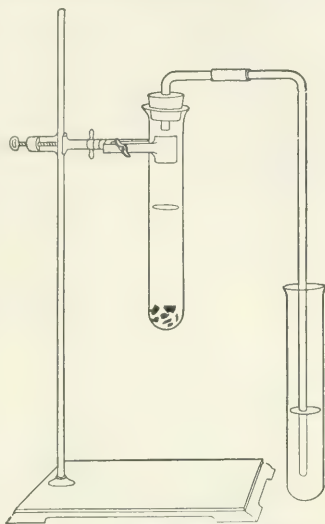

Fig. 52. Preparing a solution of hydrogen sulphide.
**c. Properties.** Fit the test tube with a 1-hole stopper and delivery tube as shown in figure 52. Collect the gas in a dry test tube by the upward displacement of air, remove the delivery tube, and light the gas in this test tube. As soon as the gas in the test tube burns quietly, attach a glass nozzle\* or jet to the delivery tube and set fire to the gas.